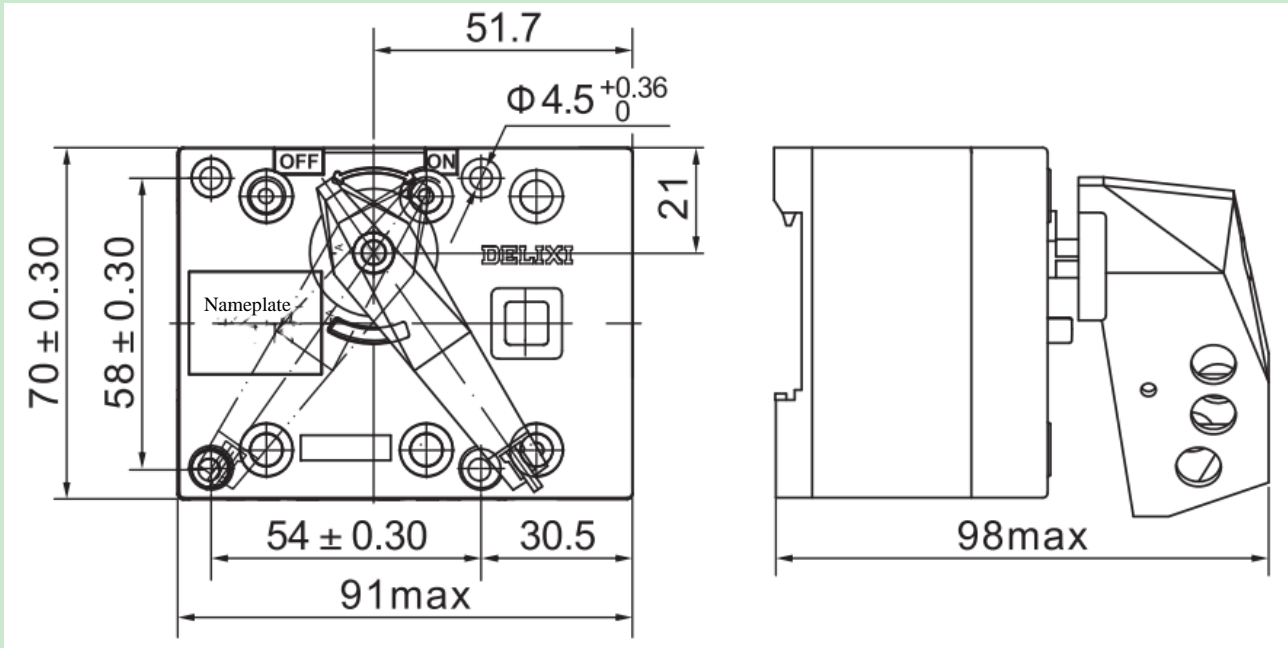
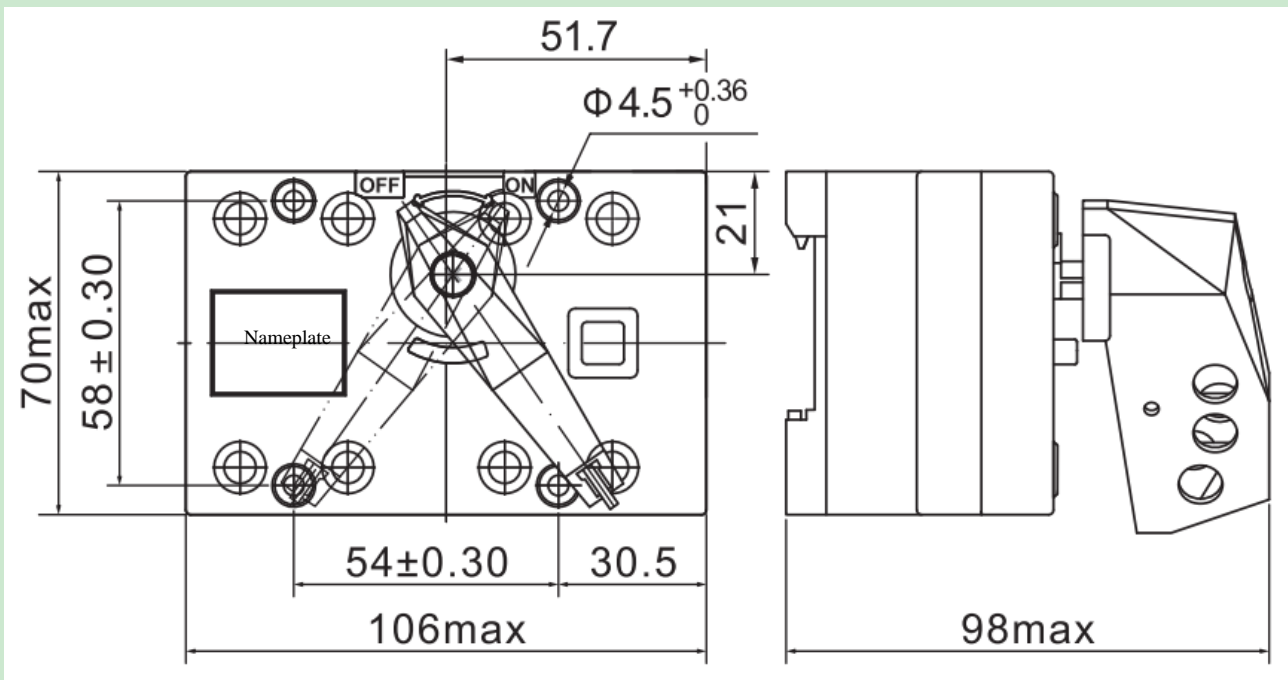
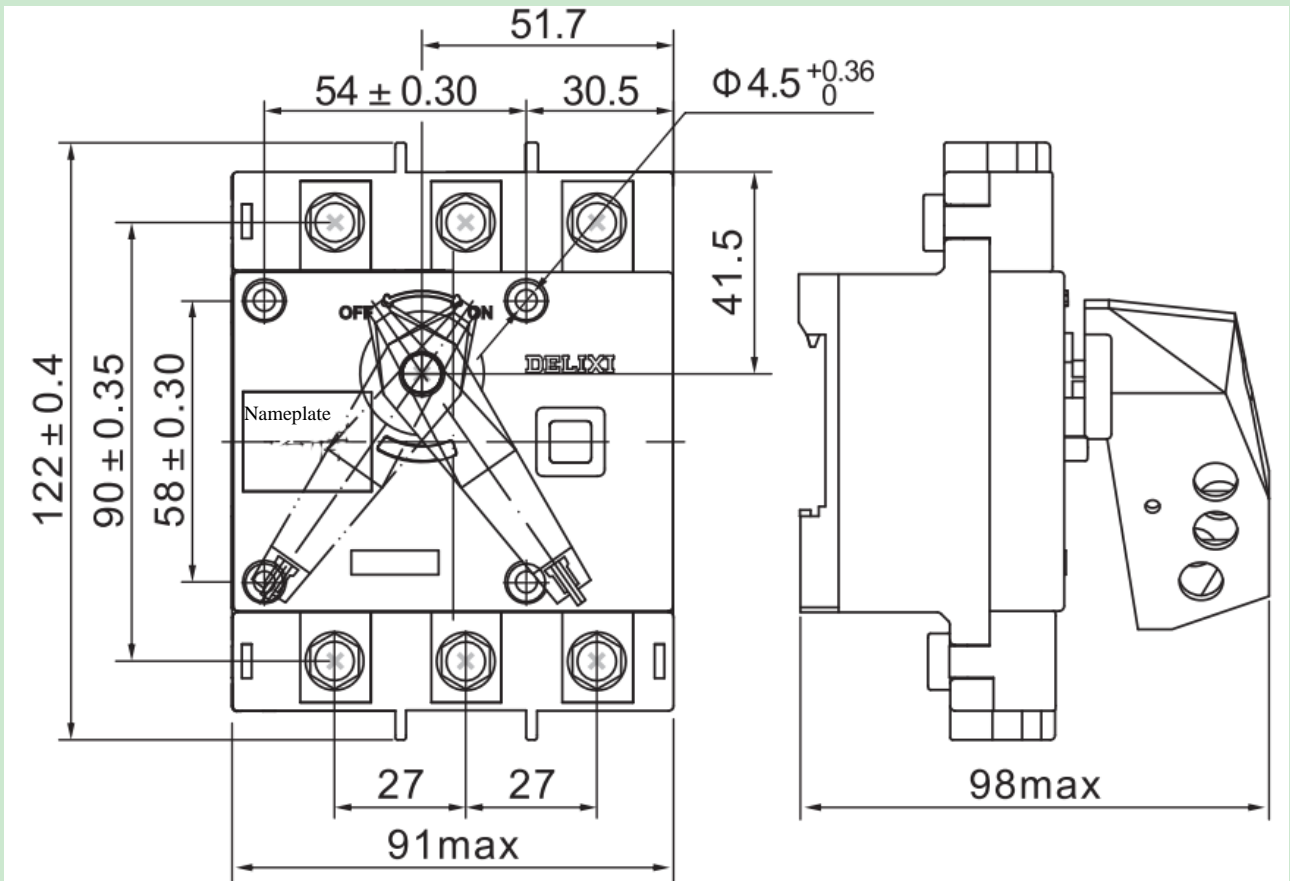

Fig. 1: Outline and installation dimensions of HGL, HGLi-16 ~63/3 disconnector
Fig. 2: Outline and installation dimensions of HGL and HGLi-16 ~63/4 disconnectors
Fig. 3: Outline and installation dimensions of HGL and HGLi-80 ~ 100/3 disconnectors
6.1 HGL, HGLi - 16~63/ 3 (4) disconnector outline and installation dimensions and HGL, HGLi -80 ~ 100 / 3 (4) disconnector outline and installation dimensions see Fig. 1, Fig. 2, Fig. 3, and Fig. 4.